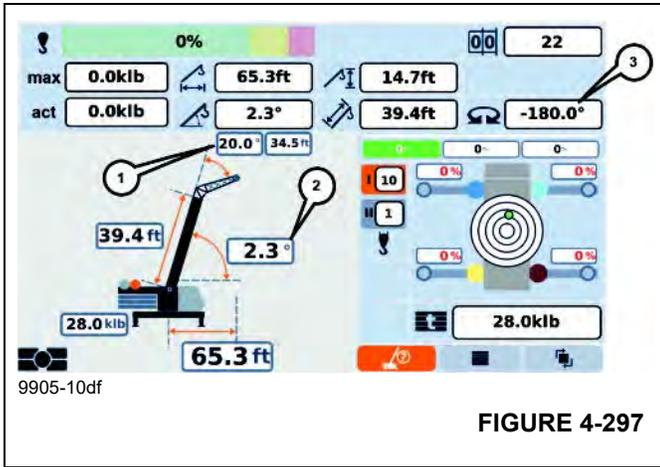

FIGURE 4-297
Display:	Current angle between main boom and horizontal position in degrees (°) (2), (Figure 4-297)
0°:	Position 0° to the rear (3), (Figure 4-297)